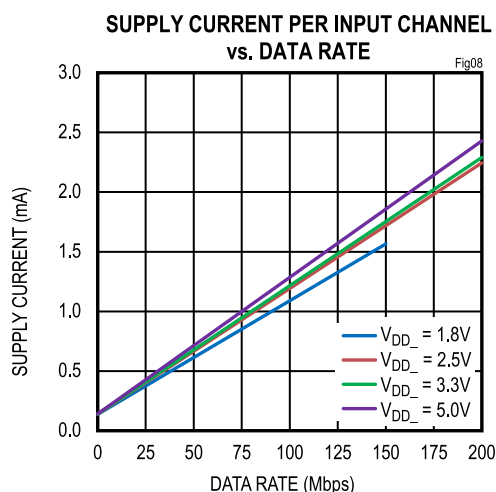
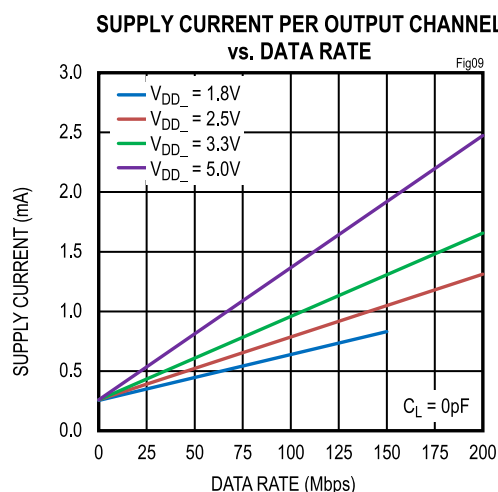

Figure 8. Supply Current Per Input Channel (Calculated)
Figure 9. Supply Current Per Output Channel (Calculated)
The required current for a given supply (V_{DDA} or V_{ddb}) can be estimated by summing the current required for each channel. The supply current for a channel depends on if the channel is an input or an output, the channel's data rate, and the capacitive or resistive load if it is an output. The typical current for an input or output at any data rate can be estimated from the graphs in Figure 8 and Figure 9. Note that the data in Figure 8 and Figure 9 are extrapolated from the supply current measurements in a typical operating condition.
The total current for a single channel is the sum of the no load current (shown in Figure 8 and Figure 9), which is a function of voltage and data rate, and the load current, which depends on the type of load. Current into a capacitive load is a function of the load capacitance, switching frequency, and supply voltage.
- Channel 1 is an input channel operating at 2.5V and 20Mbps, consuming 0.35mA, estimated from Figure 8.
- Channel 2 is an input channel operating at 2.5V and 100Mbps, consuming 1.19mA, estimated from Figure 8.
- Channels 3 and 4 are input channels operating at 2.5V with DC signal, consuming 0.14mA, estimated from Figure 8.
- Channel 5 is an output channel operating at 2.5V and 50Mbps, consuming 0.52mA, estimated from Figure 9.
- Channel 6 is an output channel operating at 2.5V and 200Mbps, consuming 1.31mA, estimated from Figure 9.
- Channel 1 is an output channel operating at 3.3V and 20Mbps, consuming 0.40mA, estimated from Figure 9.
- Channel 2 is an output channel operating at 3.3V and 100Mbps, consuming 0.96mA, estimated from Figure 9.
- Channels 3 and 4 are output channels operating at 3.3V with DC signal, consuming 0.26mA, estimated from Figure 9.
- Channel 5 is an input channel operating at 3.3V and 50Mbps, consuming 0.68mA, estimated from Figure 8.
- Channel 6 is an input channel operating at 3.3V and 200Mbps, consuming 2.29mA, estimated from Figure 8.